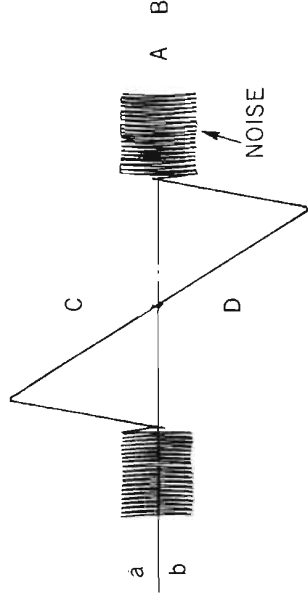

Fig. 3-2-2 "S" Curve Response
- Turn the top core of IFT₃₀₁ with the hexagonal-head alignment tool to obtain an "S" curve response as shown in Fig. 3-2-2.
- Reset the top core of IFT₃₀₁ to equalize negative and positive peaks, as shown in Fig. 3-2-2 ($C=D=1/2B$)